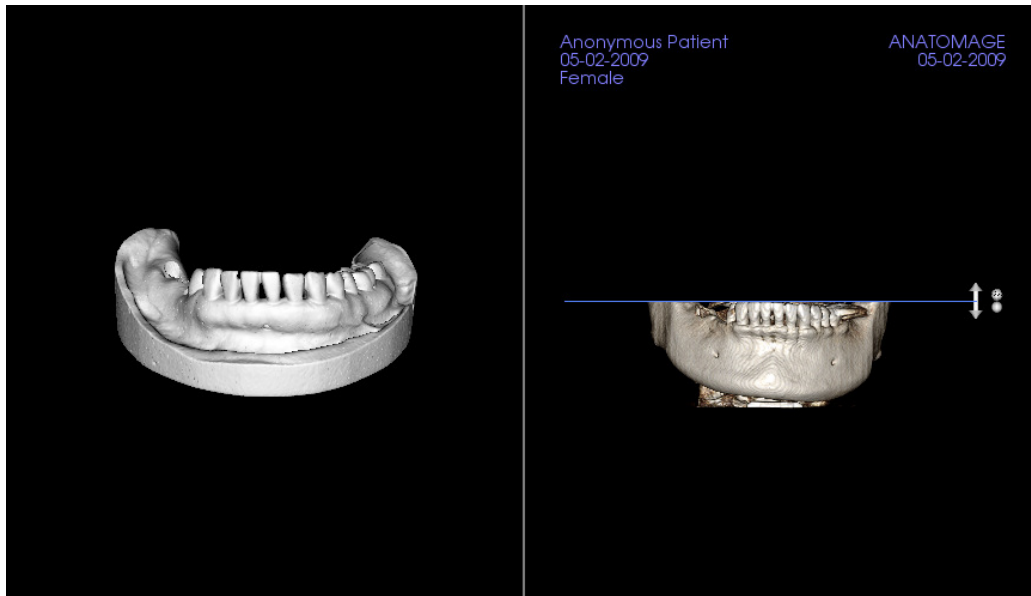

Figure 1
- **Register to CT:** This will initiate the first step in registering the STL file to the DCM. The dialog (right, lower) shows the three steps needed to complete the registration. The layout (Figure 1) shows the STL on the left of the rendering window and the DCM on the right with the adjacent clipping tool. Click **Help** to read the embedded document describing how to register different cases.